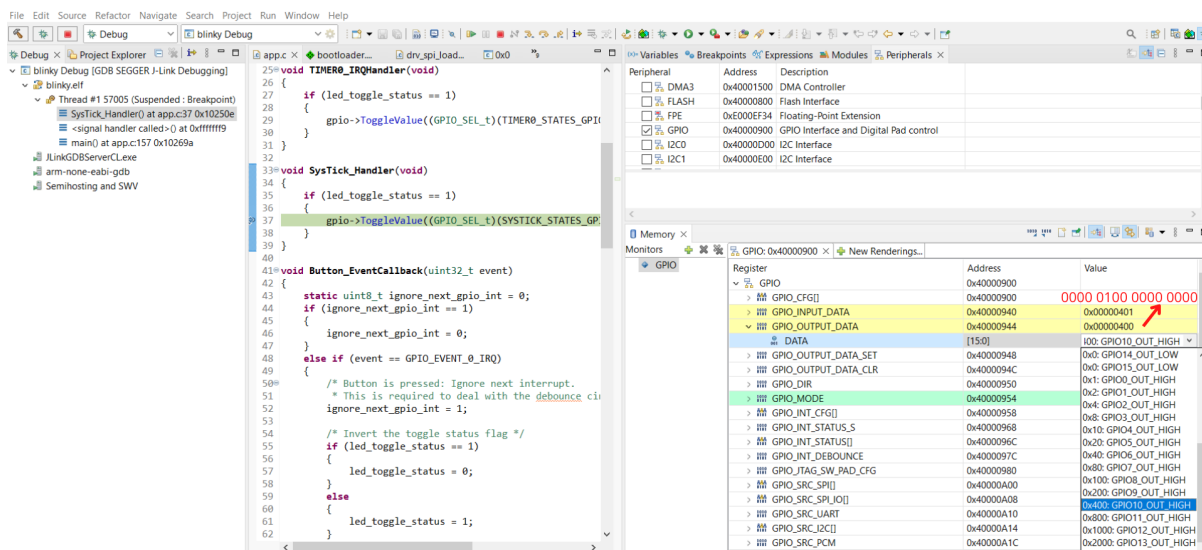

Figure 17. Toggling RSL15 GPIO Using the Peripheral Registers View: Before
6. Press F8 and observe that the register bits 8 and 10 toggle their state when `gpio->ToggleValue((GPIO_SEL_t)(SYSTICK_STATES_GPIO))` and `gpio->ToggleValue((GPIO_SEL_t)(TIMER0_STATES_GPIO))` are executed (in this case, from 0x400 to 0x100). The register turns yellow to indicate that you have activated real-time monitoring for it (see the figure "Toggling RSL15 GPIO Using the Peripheral Registers View: Before" (Figure 17)).